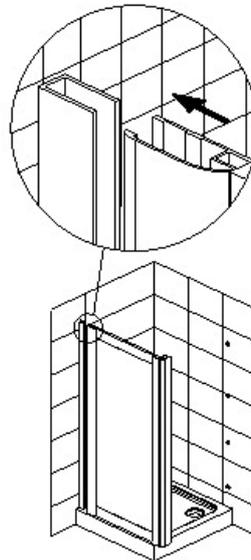

Figure 5
5. Put the side panel (20) over the side panel wall profile (21), do not fix with screws yet, as shown in figure 5.